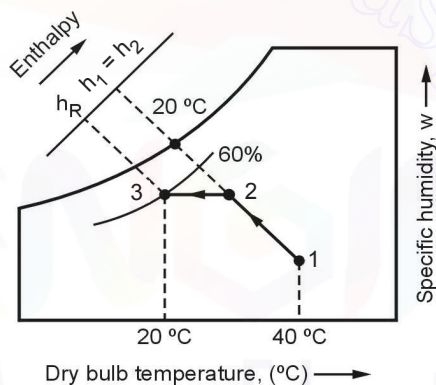

Fig. 5.80
**Sol. :** Refer Fig. 5.80.
- Therefore, draw constant enthalpy line through point '1' and draw horizontal line through 3. The intersection of these lines gives the point '2' which represents the end of adiabatic humidification and beginning of cooling process as shown in Fig. 5.80 an psychrometric chart.